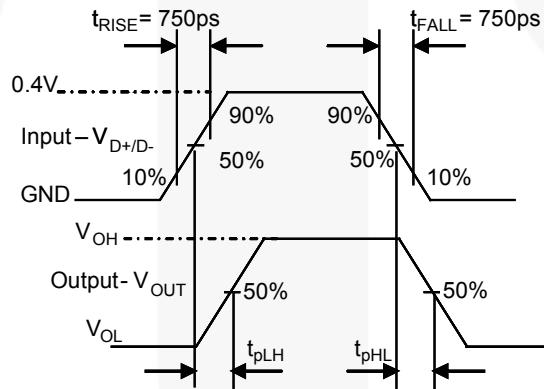
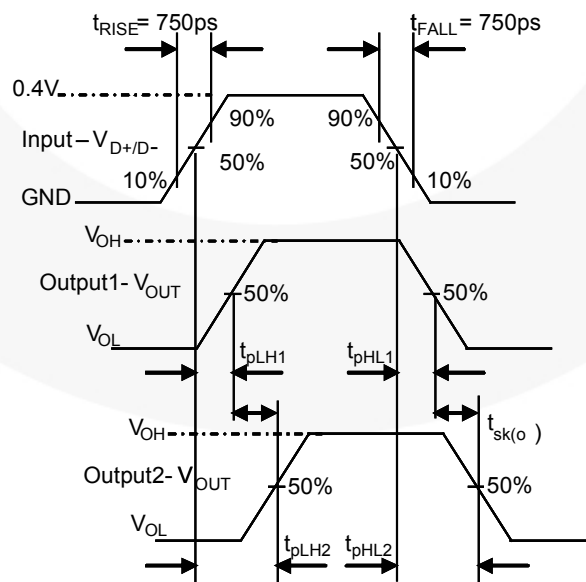

Figure 18. Pulse Skew:  $t_{SK(P)} = | t_{pHL} - t_{pLH} |$
Figure 19. Output Skew:  $t_{SK(O)} = | t_{pLH1} - t_{pLH2} |$  or  $| t_{pHL1} - t_{pHL2} |$
| t SK(O) | Channel-to-Channel Skew (11)                         | 3.0 to 4.3 (11) | t R =t F =750 ps (10-90%) at 240 MHzC L =0 pF, R L =50 ΩFigure 18, Figure 19       |                                 | 35   |      | ps   |
| t SK(P) | Skew of Opposite Transitions of the Same Output (11) | 3.0 to 4.3 (11) | t R =t F =750 ps (10-90%) at 240 MHzC L =0 pF, R L =50 ΩFigure 18, Figure 19       |                                 | 35   |      |      |